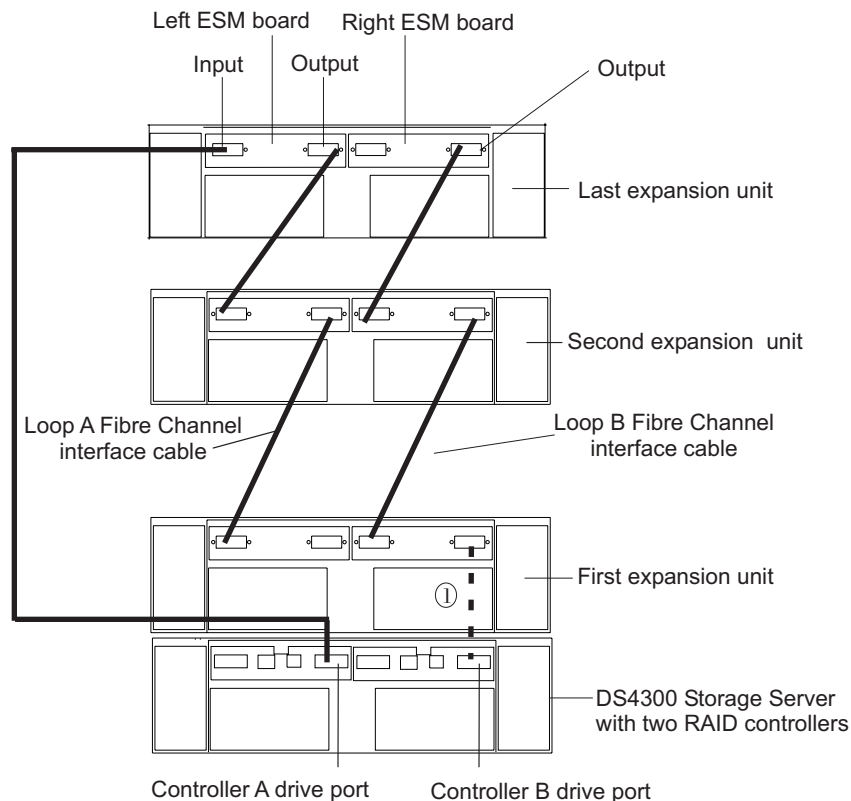

Figure 60. Disconnect the fibre channel cable from one storage server to the first EXP700
- Disconnect the fibre channel cable that connects the right-hand storage server controller drive port to the first storage expansion enclosure. In Figure 60, this cable is shown with a dashed line and marked 1. Mark the cable for later use. You will not reconnect this cable until you have replaced all the ESMs to be upgraded in the disconnected drive loop.
EXP710 ESM port (disconnected in step 6.) In Figure 60 on page 89, this cable is shown with a dashed line and marked 1.